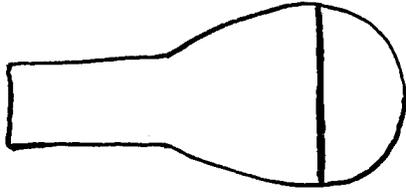
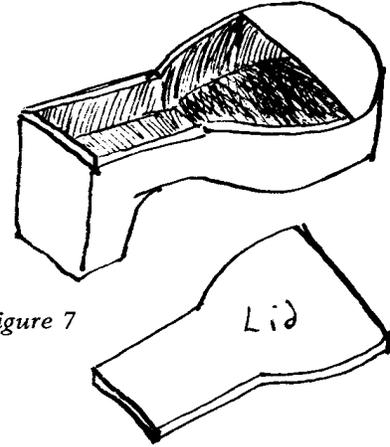

Figure 6
Figure 7
9. Draw a line on the top pattern across the widest point. *Figure 6*. The top will be made into two pieces and hinged at this point. The top material should be cut one inch larger all the way around than the pattern size. Cut the material at the line. The small portion shall be welded or riveted to the case. The opening portion is attached with aluminum hinge, but the extra one inch all the way around should first be formed to make a "lip" to extend over the outside of the case proper. *Figure 7*. When attaching the latches, some sheet aluminum shims must be used beneath the lower portion of the latch to bring the two halves flush. The handle is attached with rivets and a supporting piece of sheet aluminum should be added on the inside of the case.